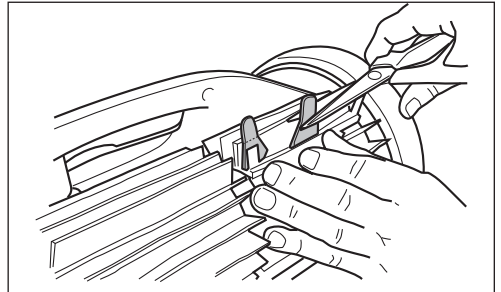

Figure 28. Cut Tabs
5. Use a pair of scissors to cut the tabs 3/4 inch from the heel so that they are no higher than the cleaning blade. See *Figure 28*.